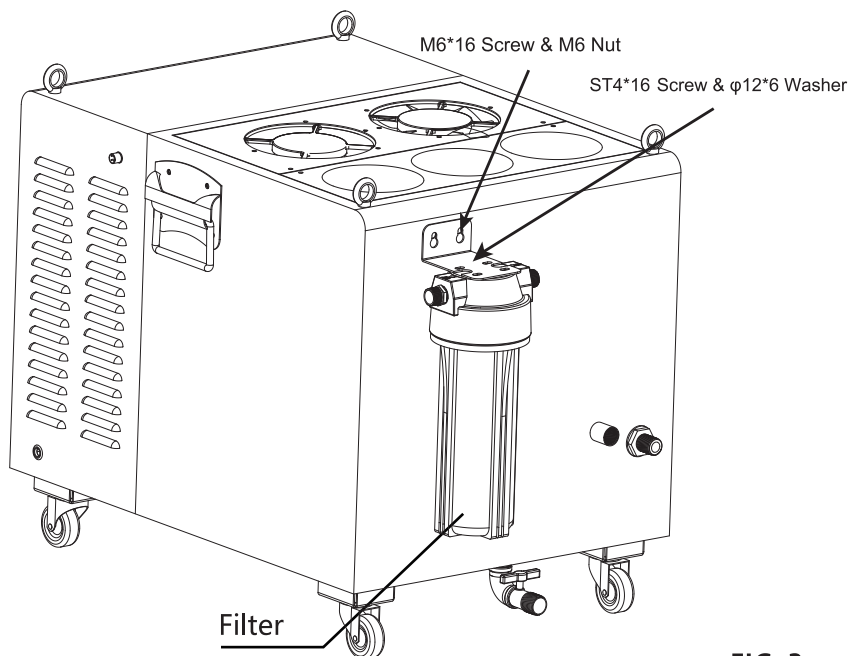

FIG. 3
- Using the four supplied screws, attach the filter underneath the bracket. (see FIG. 3).